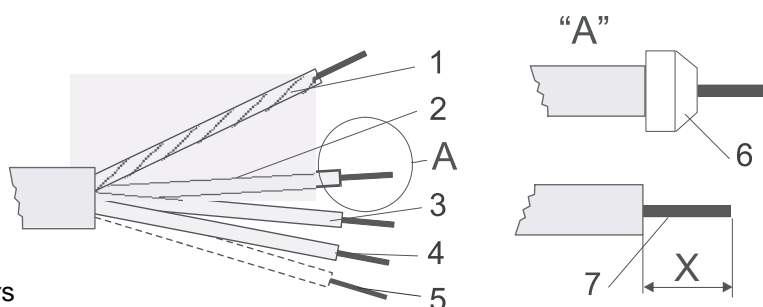
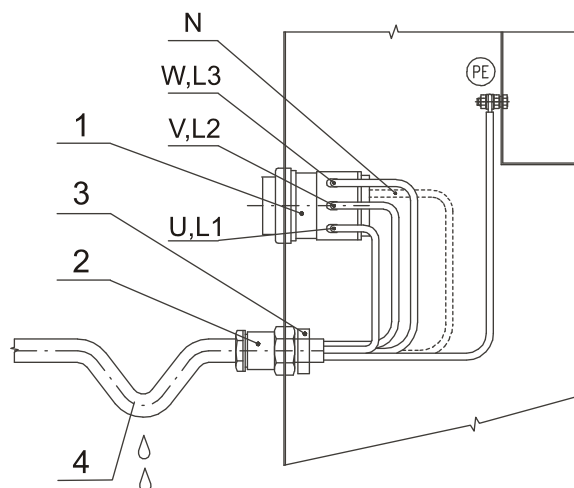

Fig.12 Adaptation of conductor ends of supply cable
Fig.13 Connection of main power inlet
- Strip the conductor ends according fig.12.
- With stranded conductors, use “wire end tubes” with an insulated sleeve (6) for L1/U, (L2/V), (L3/W), (N) conductors. Make sure there can not be make accidental contact, since the supply cable stays under voltage even when the main switch is off.
- Connect the supply cable conductors to the incoming terminals (main switch (1)) marked with L1/U, (L2/V), (L3/W), (N), and the terminal (copper screw) marked with PE, see fig.13.
- Provide a sag in the cable, in front of the cable strain relief. This will avoid ingress of condensed water into the machine, see fig.13.